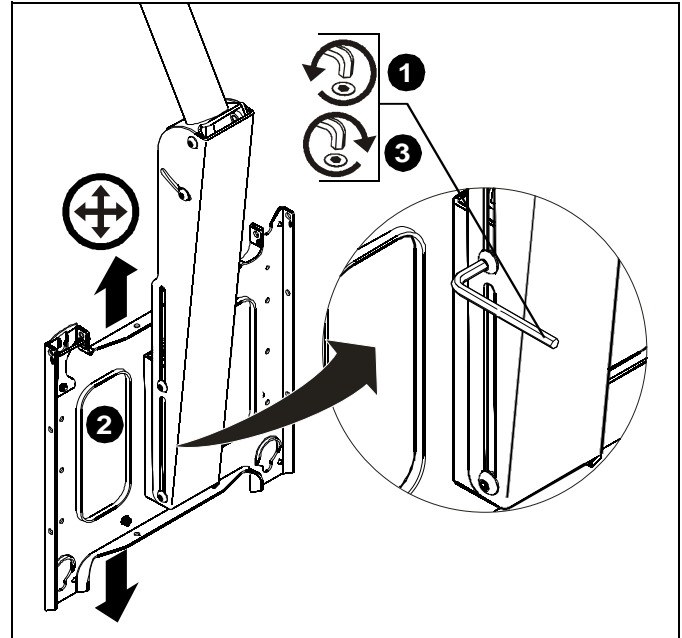

Figure 5
1. Loosen four 5/16-18 button head cap screws using 3/16" hex wrench (C). (See Figure 5)
2. Adjust faceplate to desired position. (See Figure 5)
3. Tighten four 5/16-18 button head cap screws using 3/16" hex wrench (C). (See Figure 5)